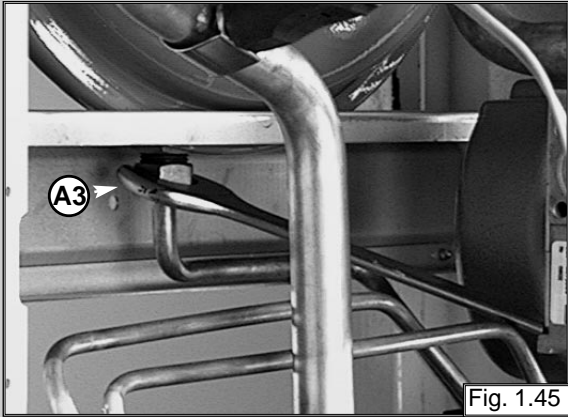

Fig. 1.45
1. Remove nut "A3" away from the expansion vessel (see fig. 1.45);